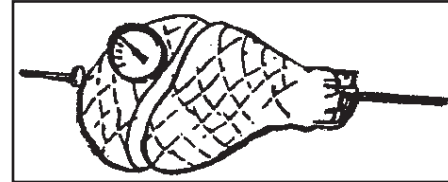

Fig. 17
**For ham or roasts:** Insert the tip of the thermometer in the center of the heaviest section of the meat. (Fig. 17)